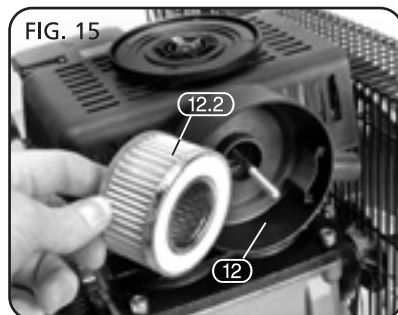

FIG. 15
11.3 MONTHLY OPERATIONS (OR MORE FREQUENTLY IF THE COMPRESSOR OPERATES IN VERY DUSTY CONDITIONS) – FIG.15